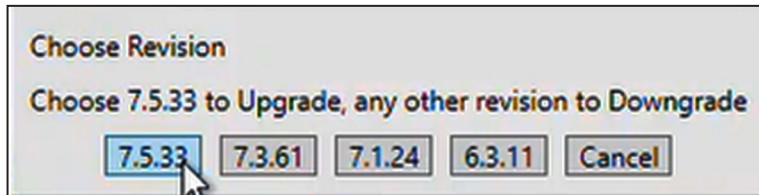

Figure 27. The Choose Revision dialog box for selecting the firmware version.
STEP 7. When the firmware update Choose Revision dialog box appears, select the firmware version to upgrade the control to. See Figure 27.